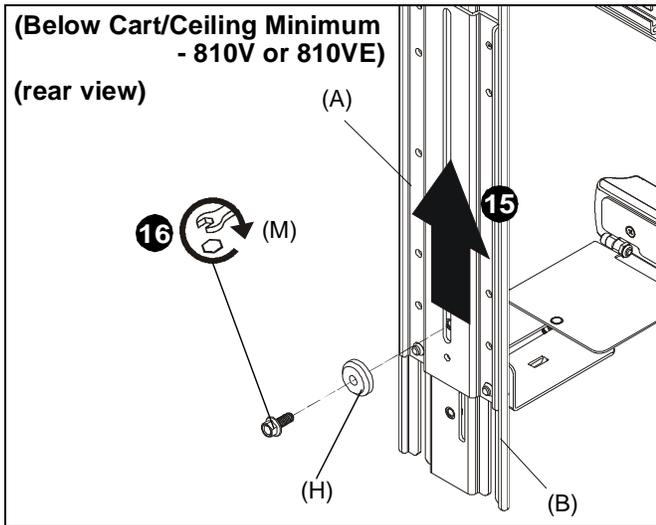

Figure 15
**NOTE:** For minimum extension on the FCA810VE model, the extender box holder (D) may be installed as part of the installation of the camera mount to the main bracket. Skip Step 16 if mounting the FCA810VE to minimum extension and installing the extender box holder (D).
15. (For **minimum extension**) Slide upright bracket (A) behind main bracket (B). (See Figure 15)
16. (For **minimum extension - 810V or VE**) Use 1/4-20 x 5/8" hex head flange bolt (M) and center washer (H) to secure upright bracket (A) to main bracket (B). (See Figure 15)